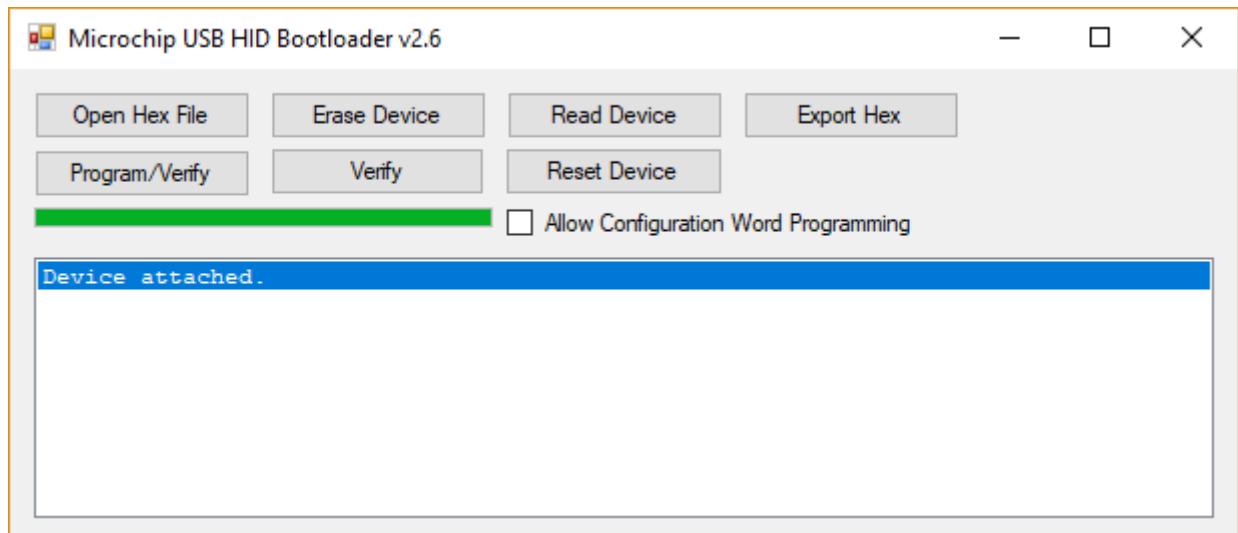

Figure 5 – Bootloader Software Screen
- A new window will open connecting the board to the USB bootloader software (Figure 5)